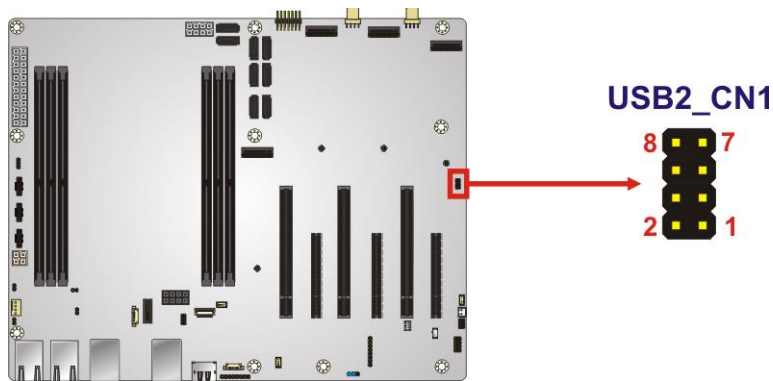

Figure 3-26: USB 2.0 Connector Pinout Location
- CN Location:** See **Figure 3-26**